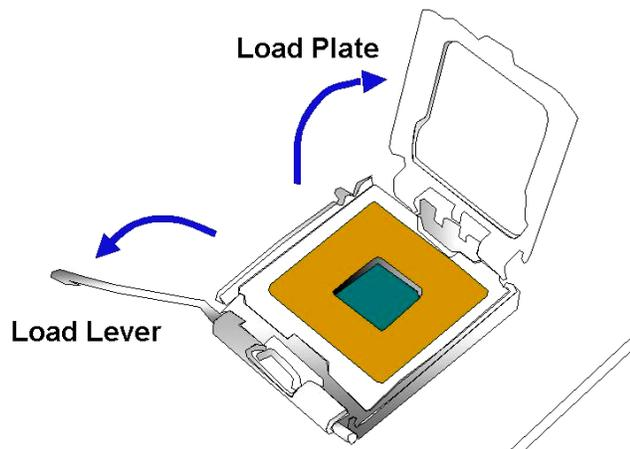

Figure 4-6: Open the CPU Socket Load Plate
Step 5: Open the socket. Disengage the load lever by pressing the lever down and slightly outward to clear the retention tab. Rotate the load lever to a fully open position. Then rotate the load plate towards the opposite direction. (See **Figure 4-6**)